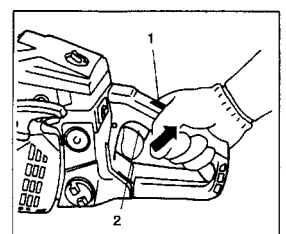

Fig. 2-4B
4. When you hear the engine want to start, with the safety trigger (1) pressed, pull throttle trigger (2). This will release the throttle from starting position to run position and will return the choke knob to run position automatically (Fig. 2-4B)